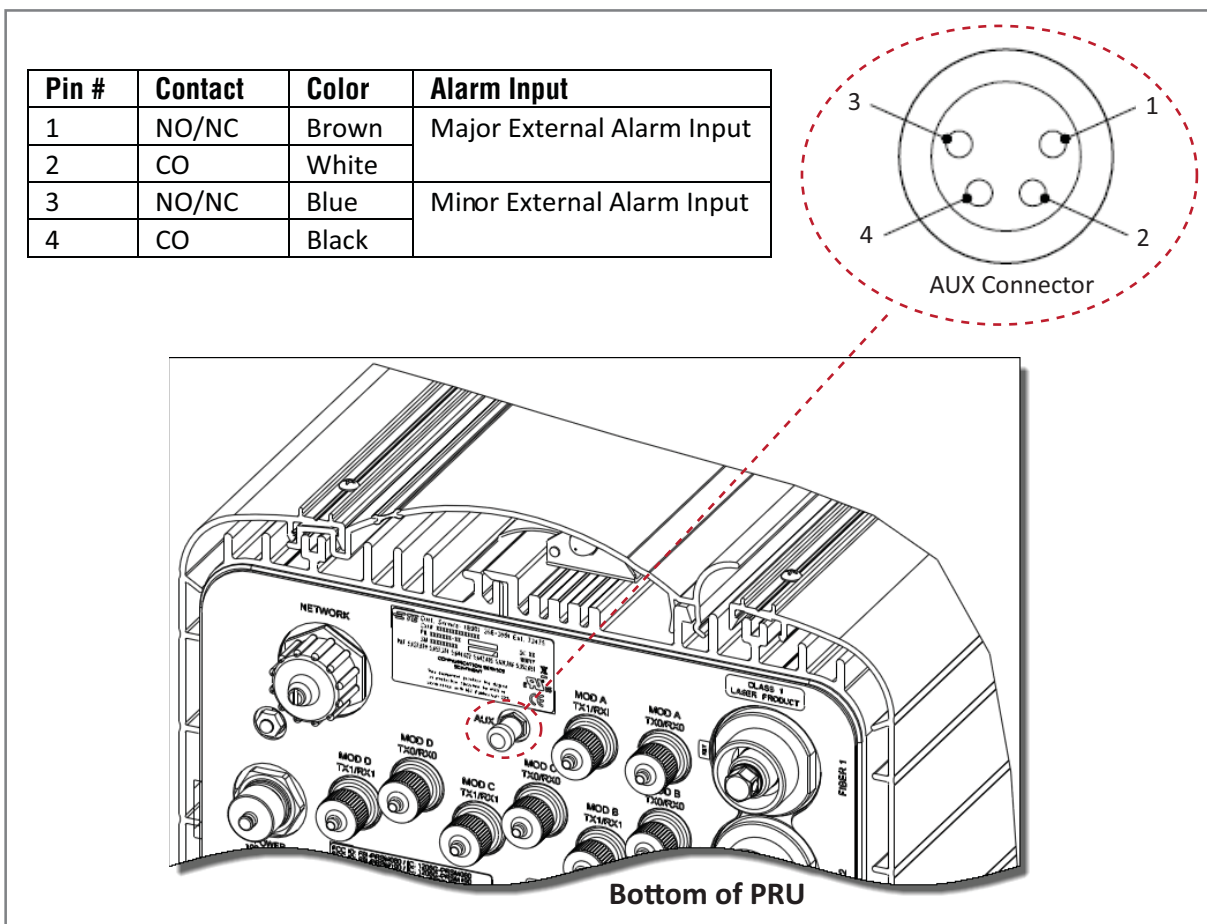
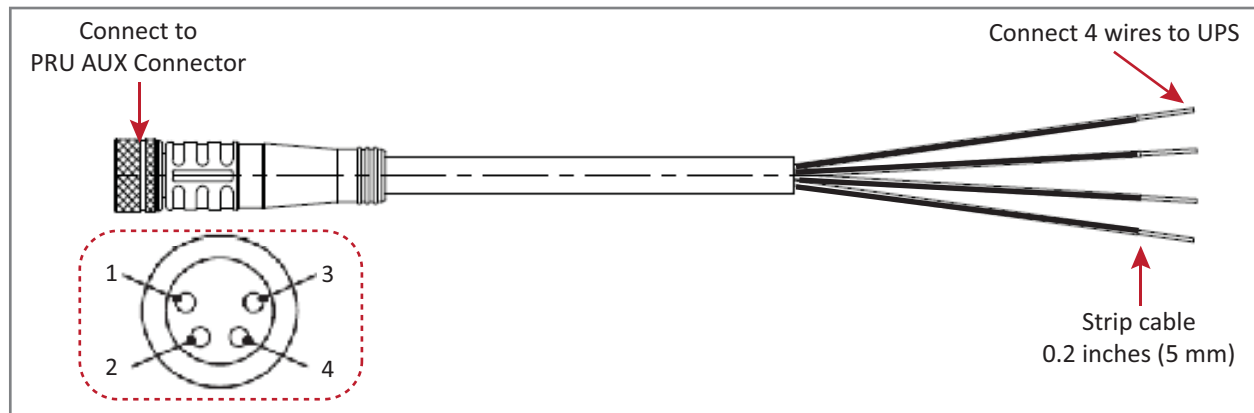

Figure 17. AUX Connector Pin Orientation
Figure 18. 4-Wire picofast 26 AWG Cable
The four-pin AUX Connector on the bottom of the PRU allows the PRU to be connected to an external device with dry contact connections, such as an Uninterrupted Power Supply (UPS). The AUX Connector pins are shown in Figure 17.
A 4-Wire M8 picofast[®] 6- or 10-meter 26 AWG cable is used to connect the PRU to the external device, as shown in Figure 18.
- 2 Orient the coupling fastener on the cable (Figure 18) with the AUX Connector pins (Figure 17), and then fasten the cable to the AUX Connector.